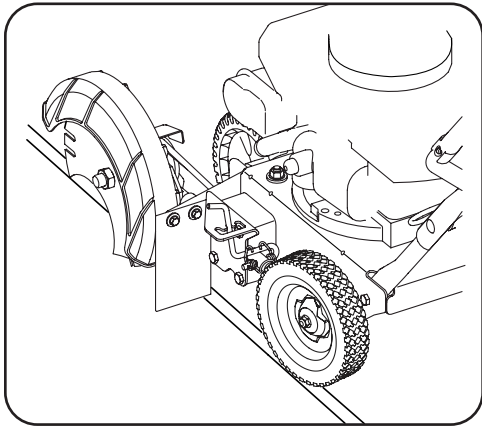

Figure 3
- Move the edger to an area to be edged, making sure that the left rear wheel is on a hard surface and the blade is over the area to be cut. See Figure 3.